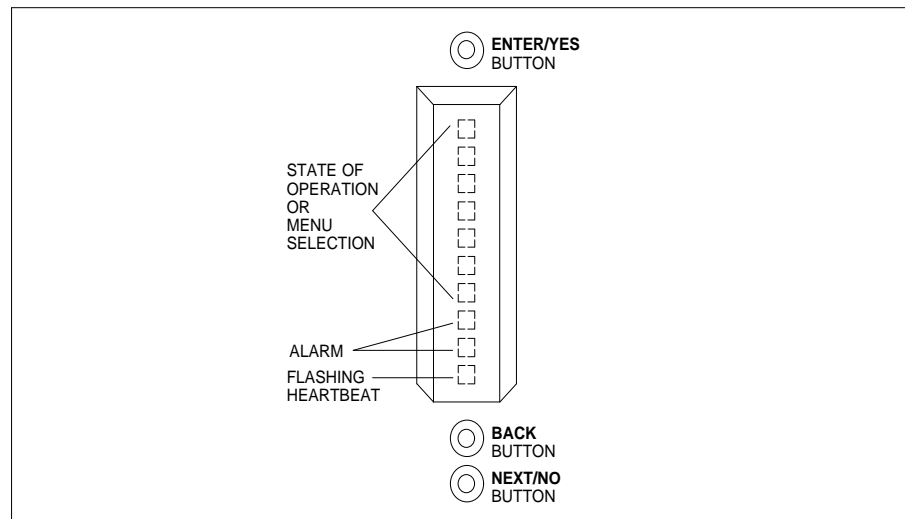

Figure 2-3. DEFINITY AUDIX System LCD Display
7. As the DEFINITY AUDIX system comes up, watch the LCD on the faceplate (see Figure 2-3., DEFINITY AUDIX System LCD Display). The LCD display identifies the states and alarms for the DEFINITY AUDIX system.